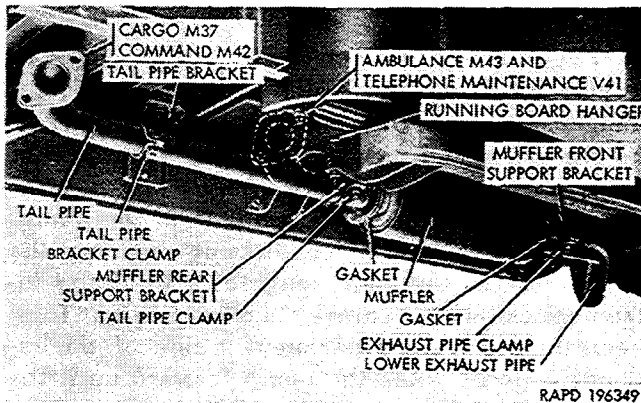

Figure 2-114. Muffler, tailpipe, and exhaust pipes.
(1) Remove the two nuts, lockwashers, and bolt which attach the lower exhaust pipe to the muffler (fig. 2-114).
(1) Remove the two nuts and bolts that attach the upper exhaust pipe to the exhaust manifold.
(2) Remove the two nuts and bolts that attach the lower exhaust pipe to the muffler.
(3) Remove the two nuts, lockwashers, bolts, and plain washers that secure the exhaust pipe clamp to the muffler front support bracket, and remove the clamp. Remove the assembled upper and lower exhaust pipes from the under side of the vehicle. Remove and discard the upper exhaust pipe-to-manifold gasket and the lower exhaust pipe-to-muffler gasket.
(4) Loosen the nuts on the two eye bolts that attach the upper exhaust pipe to the lower exhaust pipe, disengage the eyebolts, and separate the pipes. Discard the upper-to-lower exhaust pipe gasket.
(5) Remove the cotter pin and clevis pin that secure each eyebolt to the upper exhaust pipe and remove the eyebolts, nuts, and flat washers.
(6) If the muffler front support bracket (fig. 2-114) requires replacement, remove the two nuts, lockwashers, and bolts that secure the support bracket to the running board front hanger, and remove the bracket.
(1) Remove the two nuts, lockwashers, bolts, and plain washers that secure the tailpipe clamp to the muffler rear support bracket, and remove the clamp (fig. 2-114).
(2) For the cargo truck M37 remove the two
(1) Position the tailpipe bracket (fig. 2-114) cargo truck M37 on the frame side rail, and install the bolt, lockwasher, and nut. Tighten the nut.
(2) Position the muffler rear support bracket on the running board rear hanger and install the two bolts, lockwashers, and nuts. Tighten the nuts.
(3) Install a new muffler-to-tailpipe gasket on the rear flange of the muffler. Install the tailpipe on the muffler and install the two bolts and nuts. Tighten the nuts.
(4) Install a flat washer on each of the two bolts, position the clamp, and install the two bolts with washers from the bracket side. Install the two lockwashers and two nuts. Tighten the nuts.
(5) For the cargo truck M37, install the tailpipe bracket clamp and install the two bolts, lockwashers, and nuts. Tighten the nuts.